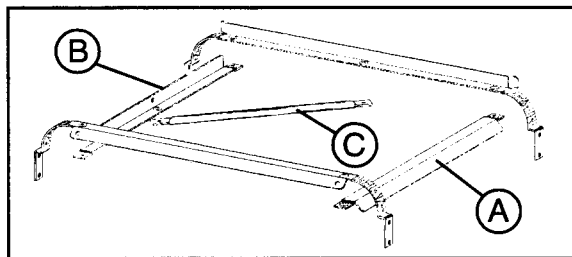

Figure 3b
1. Remove the front rack guide (A). Discard the square spacers.
2. Move front rack guide (A) to the right side of the rack tracks. (See Fig. 3b) Use existing hardware.
3. Unbolt the track (B) and rack support rod (C).
5. Bolt (B) and (C) as shown in Fig. 3b.